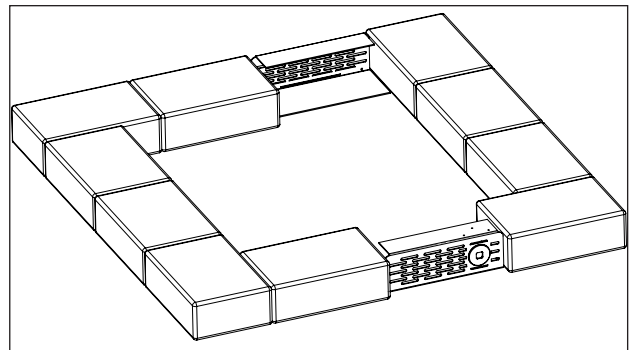

Figure 7: Brick layout
3. Put the vent plates (Include in the unit) in place as shown in Figure 7.